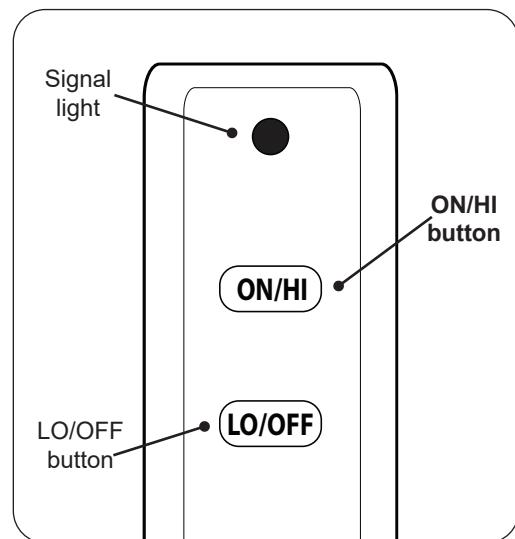

Fig. 29-1 Remote transmitter detail
- Locate the remote transmitter and press and hold the **ON/HI** button (see Fig. 29-1). The ignition sequence will begin.